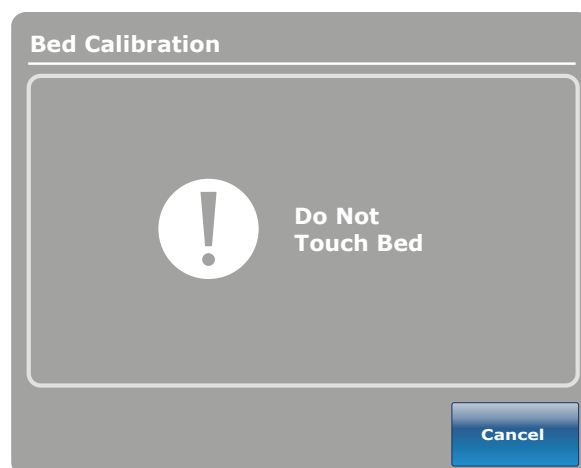

Figure 12: Do Not Touch Bed Screen
10. Press the **Next** button when done. The “Do Not Touch Bed” screen will appear as shown in Figure 12.